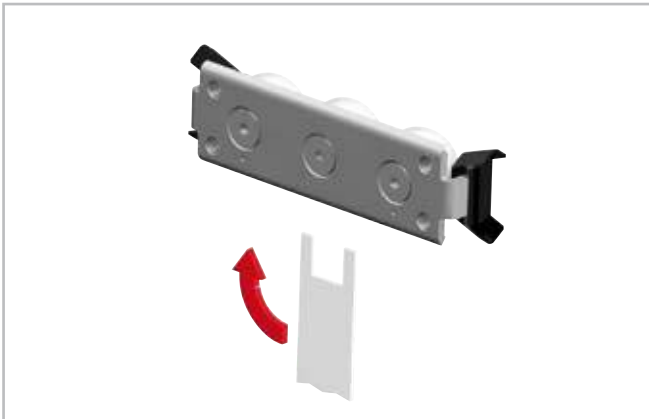

Fig. 28
- The included special flat key is inserted from the side between the rail and the slider and plugged onto the hexagonal or square shaft of the eccentric pivot to be adjusted (see fig. 28).